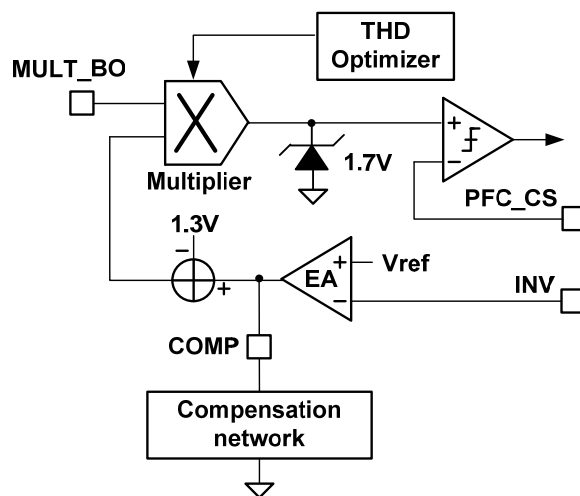

Figure 3
PFC Error Amplifier (EA) provides regulation for the PFC voltage loop. Connected to a resistor divider from PFC output, the inverting input of the EA (INV pin voltage) is compared to an internal reference voltage (2.5/1.5V) to set the regulation on output voltage. The EA consists of a transconductance amplifier with a typical transconductance value of 115 uS. The sink and source capability of the EA is approximately 30uA during normal operation. The EA output voltage (COMP pin voltage) is subtracted by 1.3V and then is internally connected to the multiplier input (as shown in Fig 3). PFC loop compensation is realized by connecting a compensation network between COMP and AGND. The system loop bandwidth is set below 20 Hz to suppress the AC ripple of the line voltage.
In OB6663L, a highly linear one quadrant analog multiplier for TM PFC control is integrated with THD (Total Harmonic Distortion) Optimizer, as shown in Figure 3. The multiplier output limits the PFC MOSFET peak current with respect to the AC half wave rectified input voltage to achieve TM PFC control. In OB6663L, the two inputs for the multiplier are designed to achieve good linearity over a wide dynamic range to represent an AC line free from distortion. The output of multiplier can be represented using the following equation: